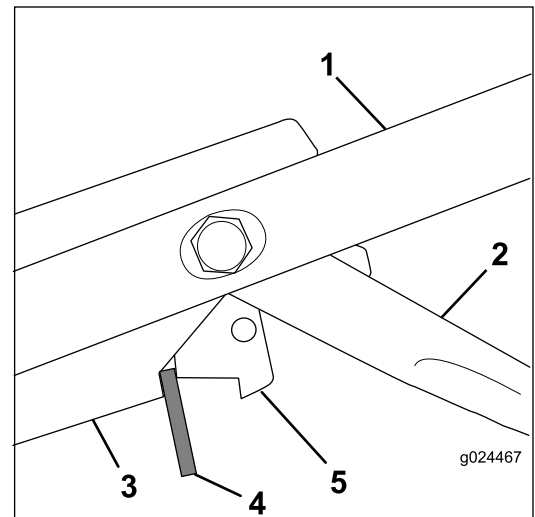

Figure 33
3. Insert a 8 mm (5/16-inch) thick spacer between the blade-brake-control lever and the control bracket on the handle (Figure 33).